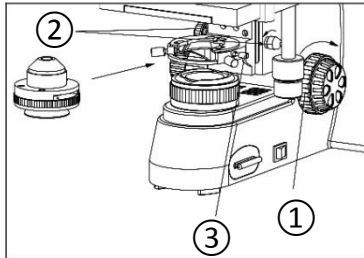

Fig. 1
The condenser was installed and centered by our technicians prior to delivery. If the condenser needs to be re-installed or adjusted in the future, rotate the coarse focusing knob ① to raise the stage to the highest position (see Fig. 1).